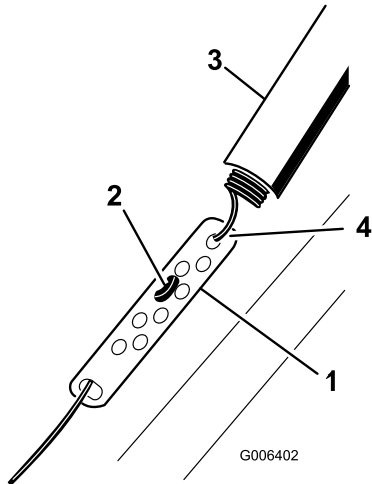

Figure 19
1. Slide up the spring cover and unhook the spring from the adjuster link (Figure 19).